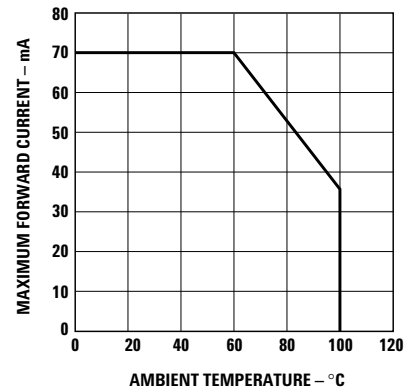

Figure 4. Maximum forward current vs. ambient temperature. Derated based on $T_{JMAX} = 125^{\circ}\text{C}$, $R_{\theta JA} = 300^{\circ}\text{C/W}$.
- Derate linearly as shown in figure 4.